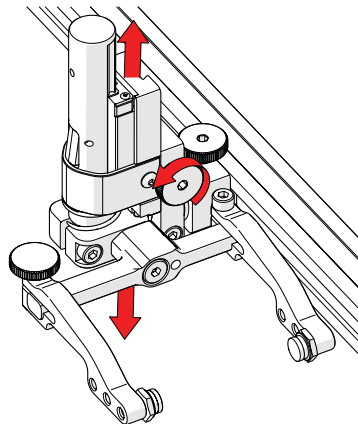

Fig. 53 - Vertical adjustment
2. Vertical adjustment knob allows the vertical probe holder height adjustment (Fig. 53).